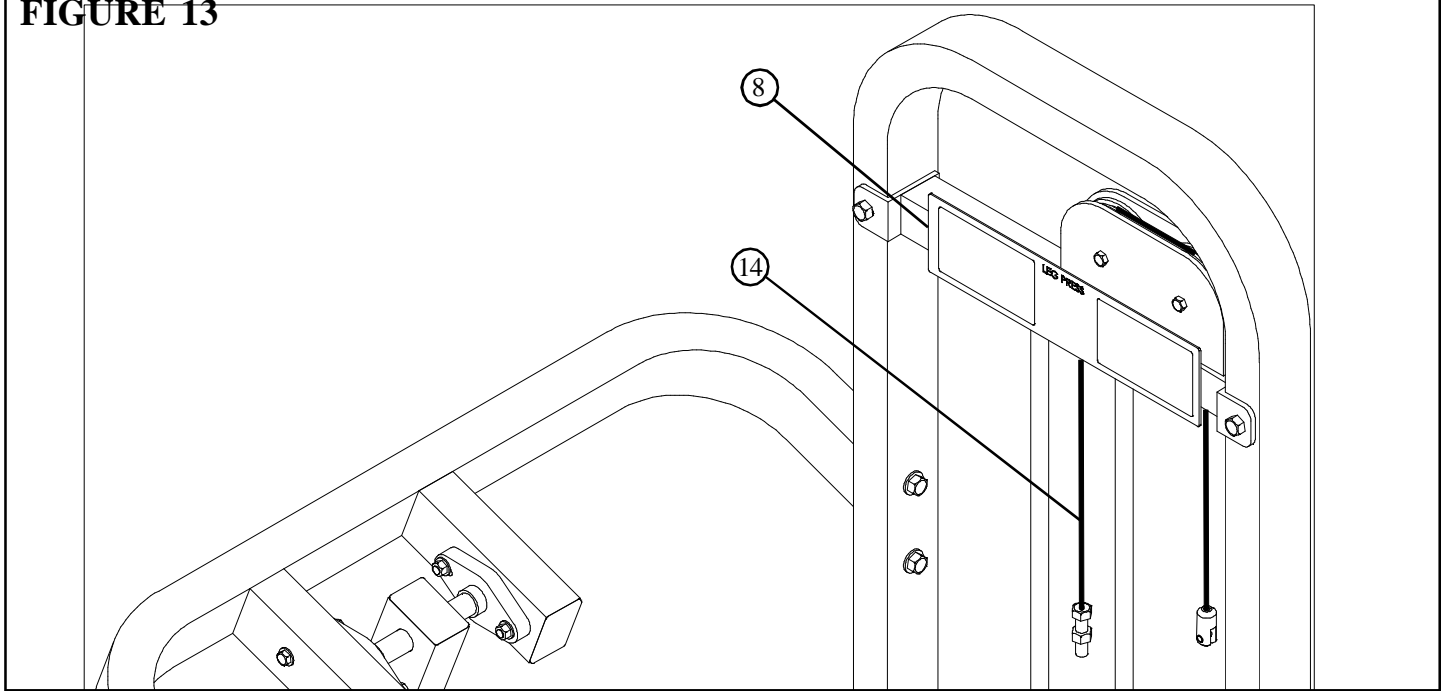

**FIGURE 12**
- Place TOWER BRACE (8) over the GUIDE RODS (13) and **SECURELY** assemble TOWER BRACE (8) to TOWER (1) using two 1/2 X 4" BOLTS (39), two 1/2" WASHERS (40), and two 1/2" LOCK NUTS (41) as shown in FIGURE 12.
- Slide the 13/16" SHAFT COLLARS (26) to the top of the GUIDE RODS (13) and **SECURELY** tighten the SHAFT COLLAR (26) set screws. See FIGURE 12.